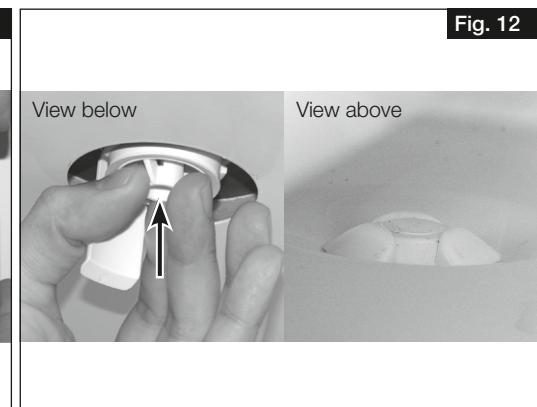

Fig. 12
2. Remove the locking part and insert the mounting part in the bottom tray opening from below until the claw fasteners snap to the edge of the base plate (Fig. 12).